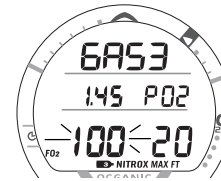

Fig. 24 - Set FO2 GAS 3
- Depressing the S button while the FO2 Set Point is flashing will scroll the Set Point from AIR to 21 through 100% (Fig. 24) in 1% increments, at a rate of 8 per second.